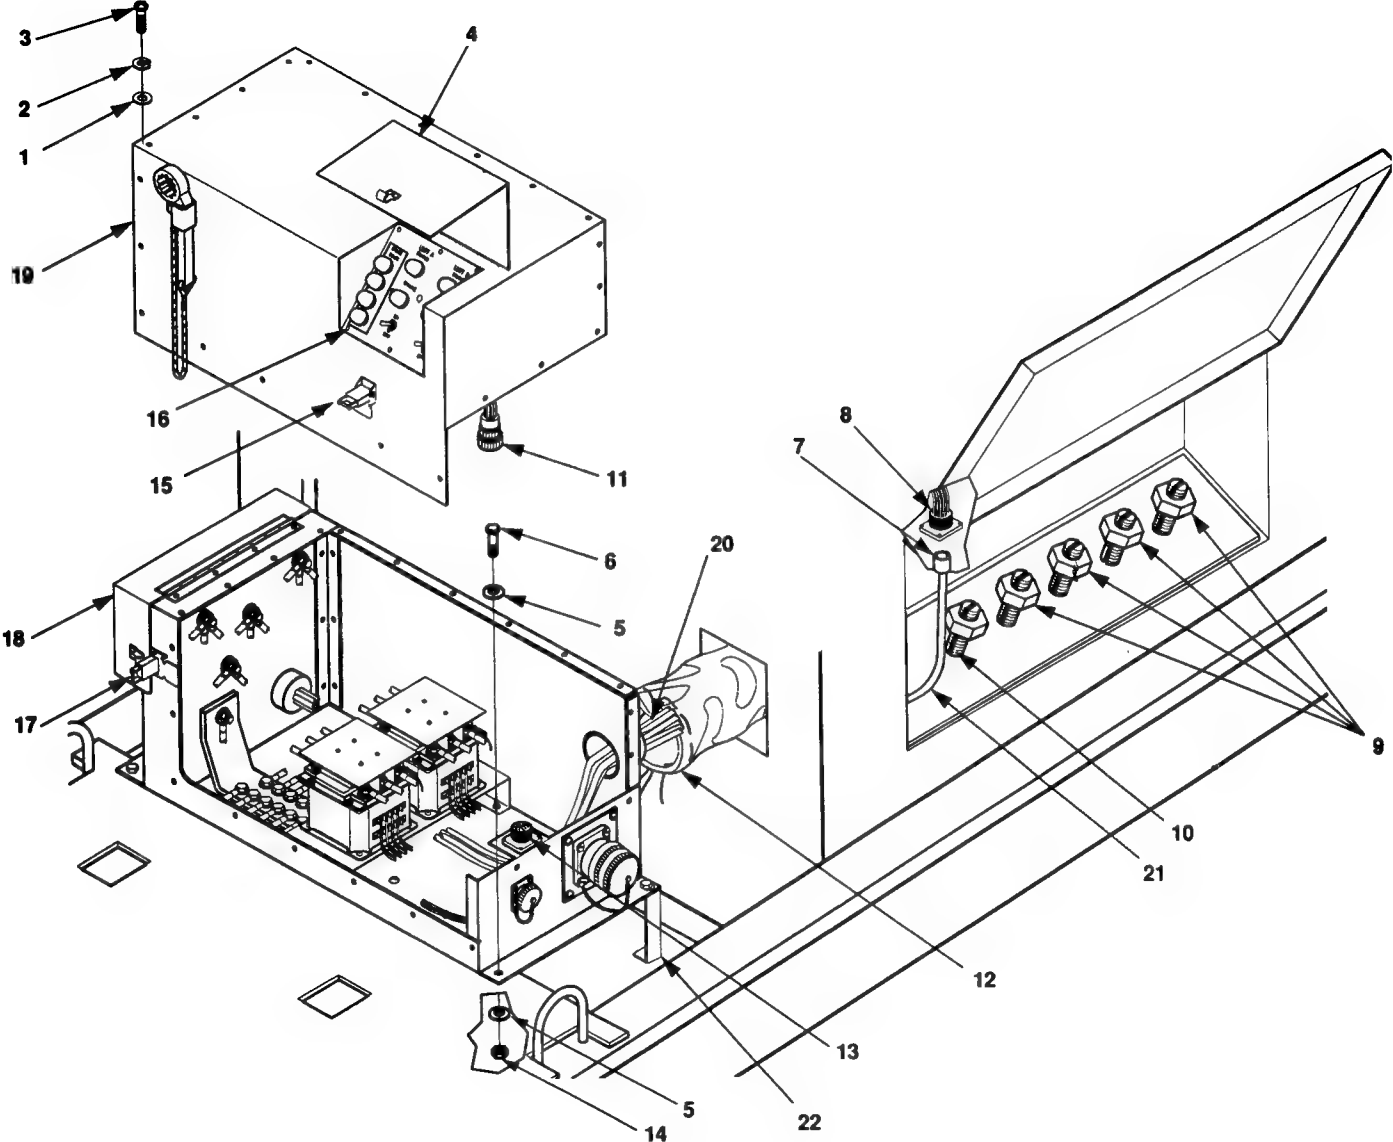

Figure 4-9. Switch Box Assembly Maintenance.
1. Remove four nuts (14, figure 4-9) flat washers (5), and screws (6) that secure switch box assembly.
2. Disconnect W1, W2, W3, and W4 from the generator set load terminals (9).
3. Disconnect W5 from the generator set ground terminal (10).
4. Disconnect P1 (7) from J 16 (8) of the generator set.